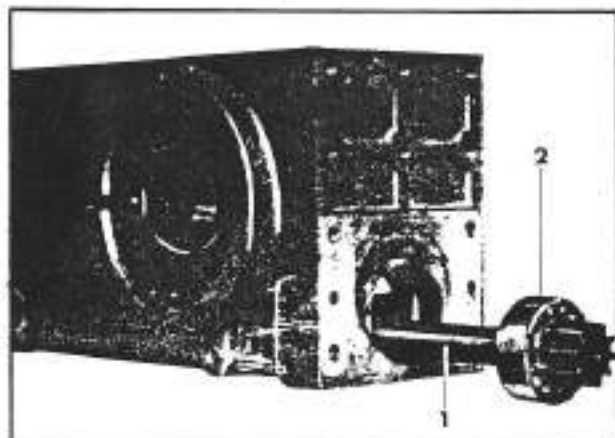

Fig. 3-47. Removal of the power take-off shaft
- b. Extract the power take-off shaft (1; fig. 3-47) with its bearing (2; fig. 3-47) by tapping with a punch from the opposite end.